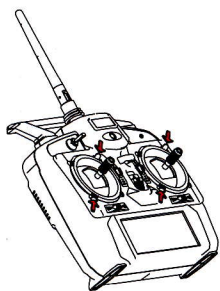

Fig.1
1. Switch "OFF" the remote control, press the button placement shrapnel of the control rod and pull it out of the main stand (Fig 1)